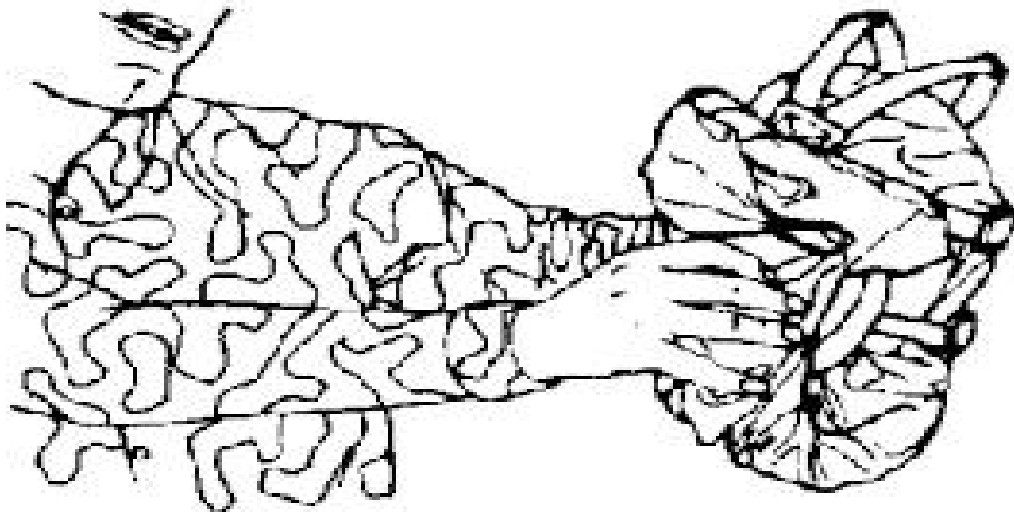

Figure E-69. Folding hood.
- (1) Shake off any moisture.
- (2) Wipe any moisture from the hood and the mask.
- d. Fold the two edges of the hood over the outlet valve to create a V in the front of the hood (figure E-69).